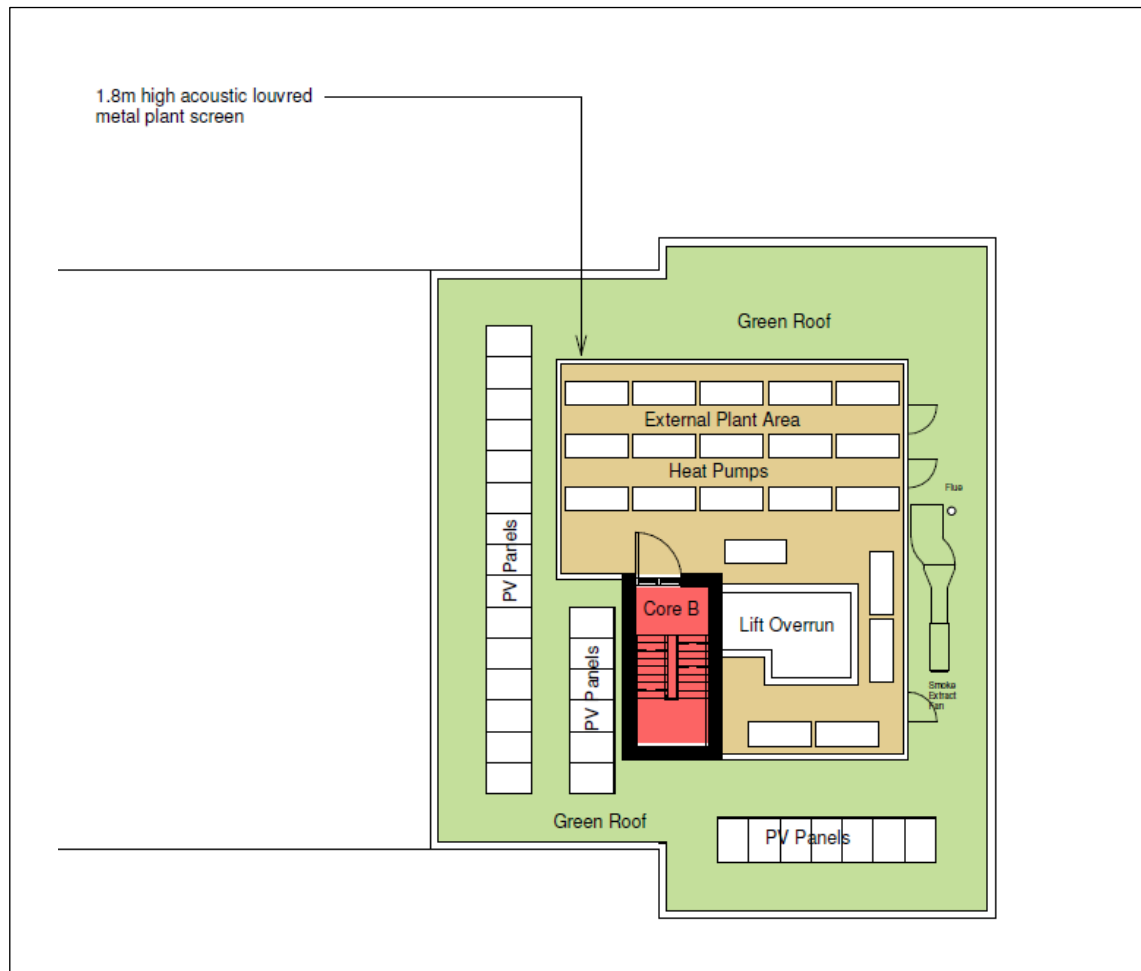

Figure 10.1: Proposed General Arrangement of External Heat Pumps
- 10.1 The proposed development is to include the installation of 20 heat pumps units within a dedicated plant enclosure at roof level, as shown in **Figure 10.1** below.